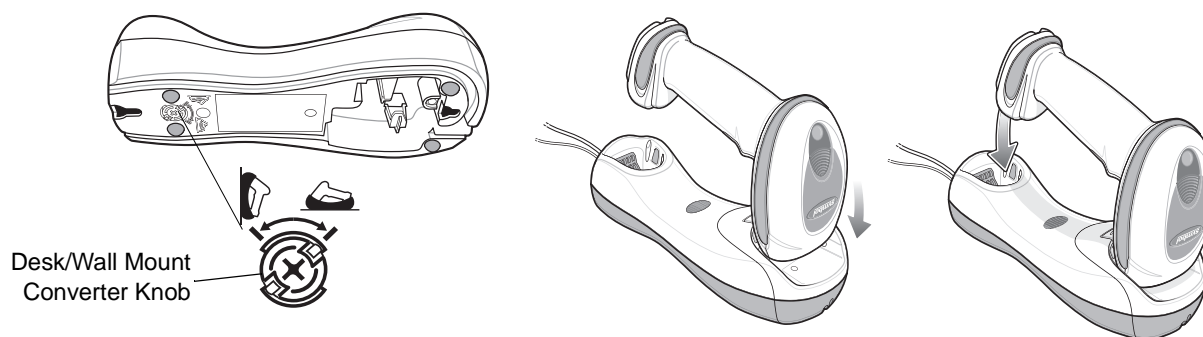

Figure 1-7 Horizontal Mount - Inserting the Digital Scanner in the Cradle
2. Ensure the desk/wall mount converter knob is in the position shown in Figure 1-7.